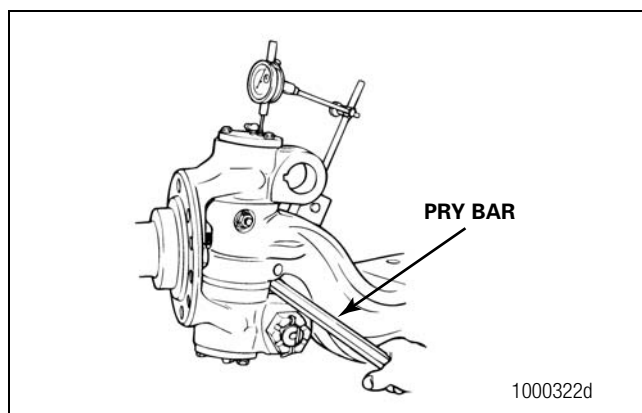

Figure 6.8
4. Place a pry bar between the boss for the tie rod arm and the I-beam. Push the knuckle to the BOTTOM of vertical travel. Figure 6.8.